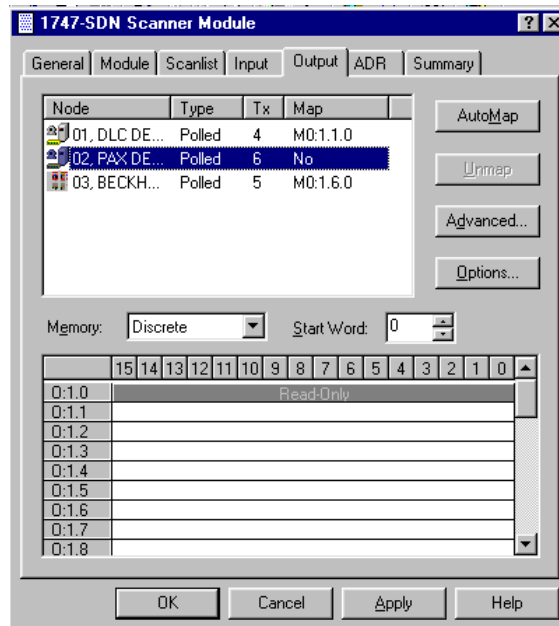

Figure 8
6. Select the Output tab from the configuration menu and follow the same procedure to map the output data of each device. (Fig 8)